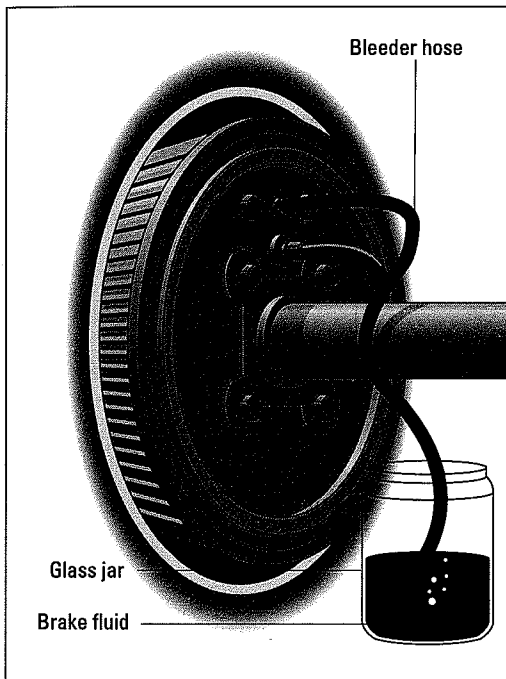

Figure 18-14:
- 3. If you have a small piece of flexible hose that fits over the end of the bleeder screw, attach it and place the end of the hose in the jar. Then fill the jar with brake fluid to cover the end of the hose (see Figure 18-14).**